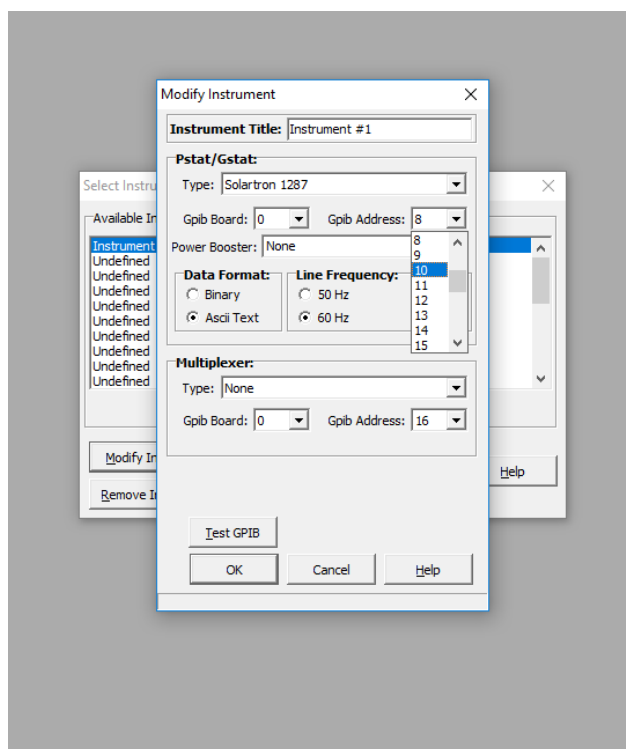

Figure 8
- c. The GPIB address can be changed to match the address determined from the direct status test with the 1287A using the drop-down box shown in Figure 8.